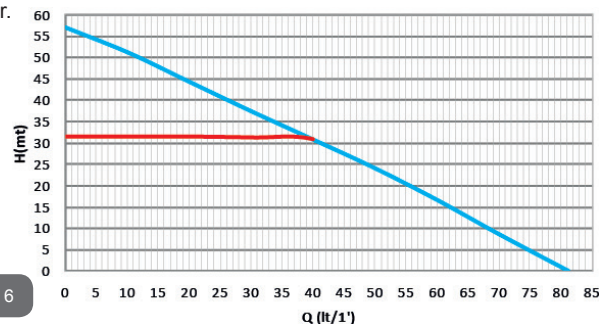

Figure 6
The graph in Fig.6 shows the curve of the hydraulic performance. By automatically modulating the rotation speed of the electropump, the inverter allows it to shift its work point according to necessities to any part of the area subtended by its curve, to keep the set pressure valve constant (SP). The red curve shows the behaviour of the e.sybox mini with set point at 3.0 bar.